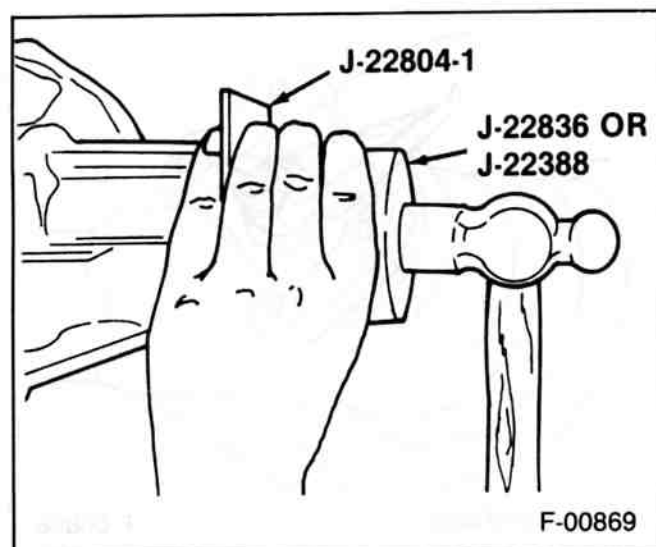

Figure 20—Installing The Pinion Seal
- Position the oil seal in the bore then place J-22804-1 over the oil seal and flat against the seal flange (figure 20).
- Use J-22836 or J-22388 for the 9 1/2-inch ring gear to press the oil seal into the bore (figure 20).